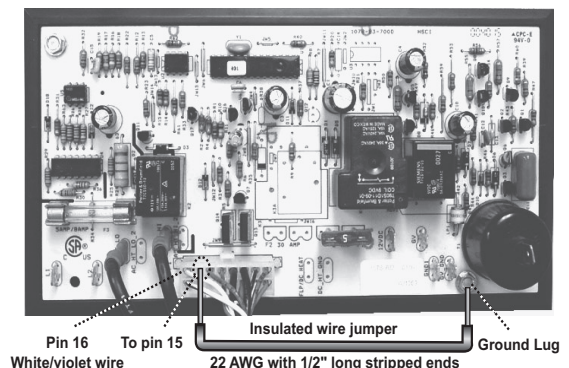

Figure 9. Resetting the power board.
6. Locate Pin 15 on 16 pin connector (P1). Pin 15 is the empty socket to the right of the white/violet wire on the top row. See Figure 9.
7. Using a 14 AWG size insulated jumper wire, jump Pin 15 to the power board ground lug for 10 - 15seconds. A click sound will indicate when the controls reset. See Figure 9.